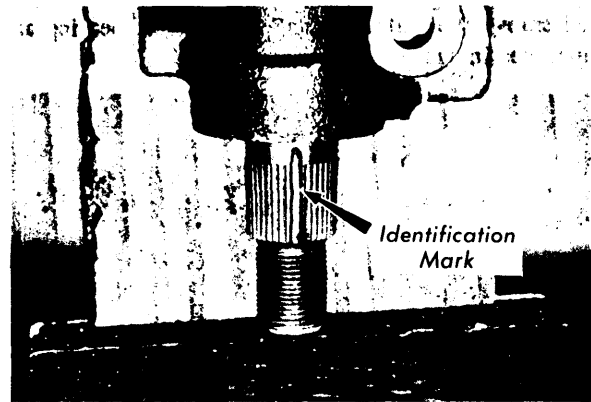

Fig. 4 Location of Identification Mark
2) Remove pitman arm nut and using a suitable puller, remove pitman arm. Remove sector shaft adjusting screw lock nut. Center gear by turning worm shaft until identification mark is in the position shown in Fig.4.